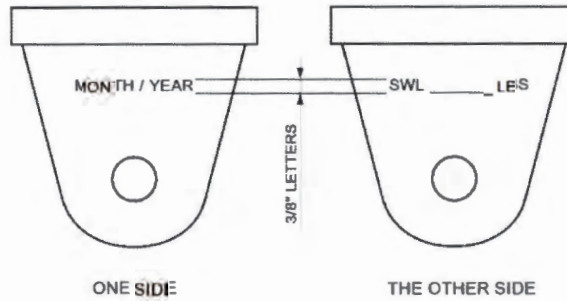

Figure 6-1: Marking (TYP)
- 6-1 **PADEYE MARKING** After satisfactory test, stamp the padeye in the area indicated on the **Figure 6-1** with the date of test on one side and the safe working load of the padeye on the other. Record the date of marking in the TEST DATA SHEET.